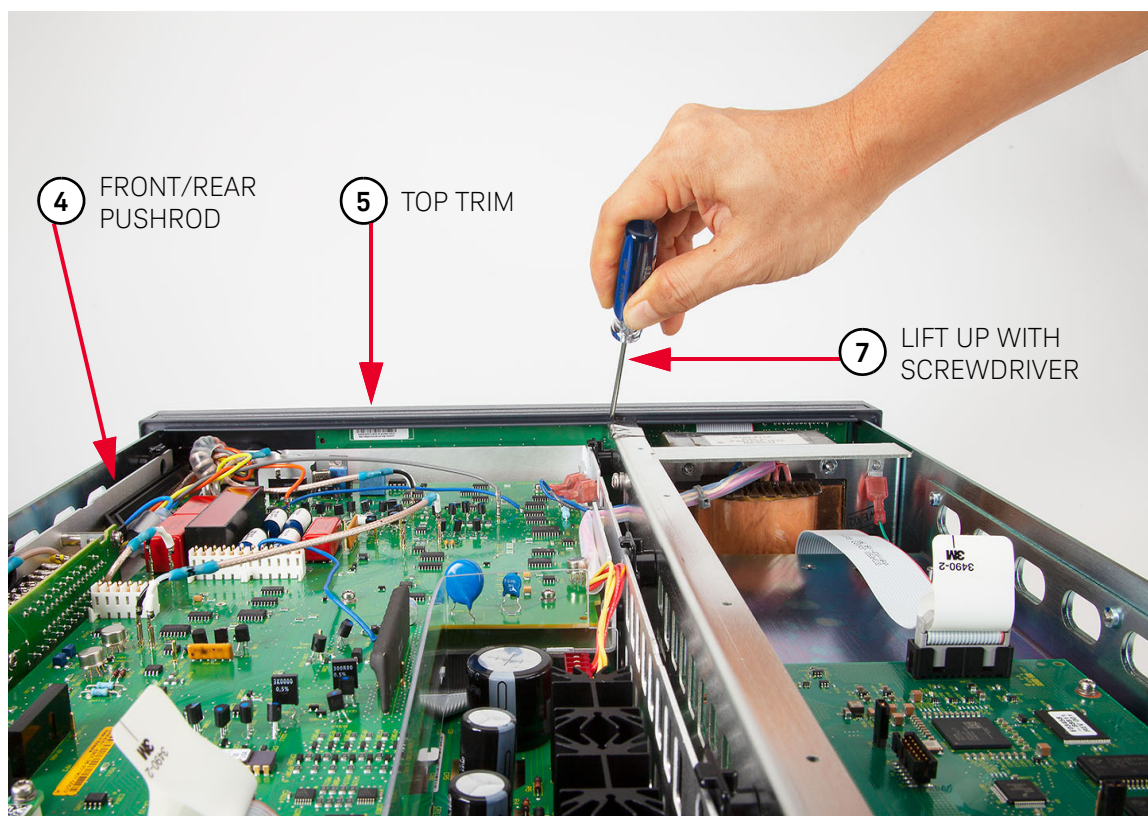

Figure 3-17 Top trim and front/rear pushrod locations, and unlock panel
- 5 Refer to **Figure 3-17**. Do the following:
- 8 Refer to Figure 3-17. With a small flat bladed screwdriver, lift up the Front Panel assembly and unlock it from the chassis. Carefully move some more of the Front Panel assembly's left side (as seen from the front of the instrument) until free from the chassis. Then move the rest of the Front Panel assembly out and away from the instrument as far as it can go. Note that the assembly can only be moved a short distance, since the front terminals are still internally connected to the instrument.
- 11 Install the top trim into the channel on top of the Front Panel assembly. Lock it in place (see Figure 3-17).
- 13 Refer to Figure 3-17. Guide the Front/Rear Terminals switch pushrod through the rear of the front panel's access hole. Then align the pushrod with the Front/Rear Terminals switch shaft and push it all the way onto the shaft.